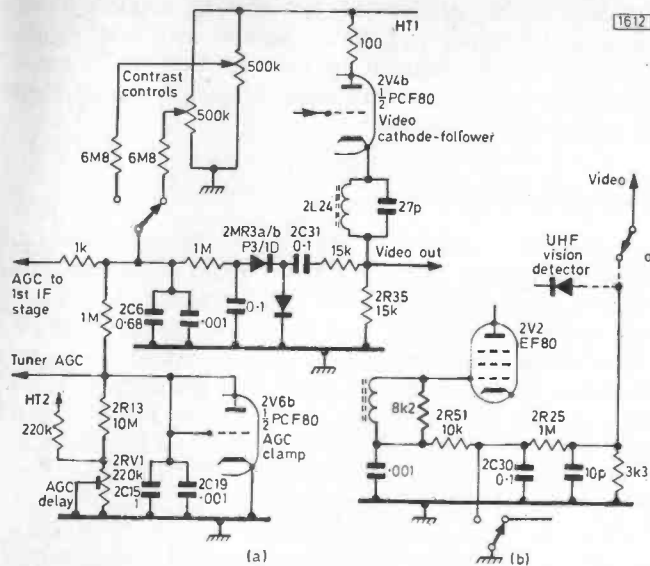

Fig. 1: The a.g.c. system. (a) Main a.g.c. circuit. (b) Additional circuit operative on 625 lines to prevent lock-out on sudden application of a strong signal.
Moving on to the main chassis assembly, problems can be experienced with the a.g.c. circuit. As shown in Fig. 1, this is relatively complex. The main a.g.c. circuit is shown at (a) and consists of a voltage doubler rectifier (2MR3) followed by the usual filters and a diode-connected triode clamp. A noisy picture may not be the tuner but the 10M Ω resistor 2R13 in series with the a.g.c. delay control going open-circuit. Unsatisfactory contrast control action and/or unstable sync and buzzing sound may be 2RV1 being set incorrectly or 2R13 changing value. Other culprits of odd
a.g.c. action are 2C6, 2C15 and 2C19. On 625 lines there is a second a.g.c. line – see Fig. 1(b) – to prevent lock-out. This consists of a filter between the u.h.f. detector output and the control grid of the second i.f. stage. Poor hold on 625 lines may well be due to 2C30 in this circuit. Also check 2R51.